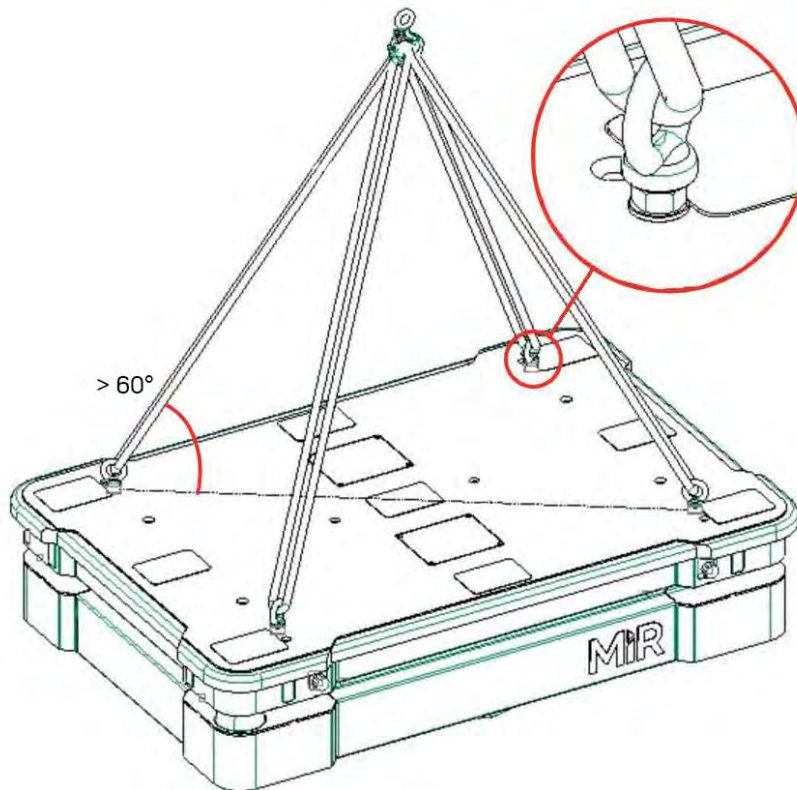

Figure 14.1. Illustration of how to lift MiR1350.
It may be necessary to lift the robot while servicing it. To lift the robot, use the four M12 mounting holes in the corners of the top cover of the robot—see **Figure 14.1**.
- The angle between the top cover and sling must be greater than 60°—see **Figure 14.1**.